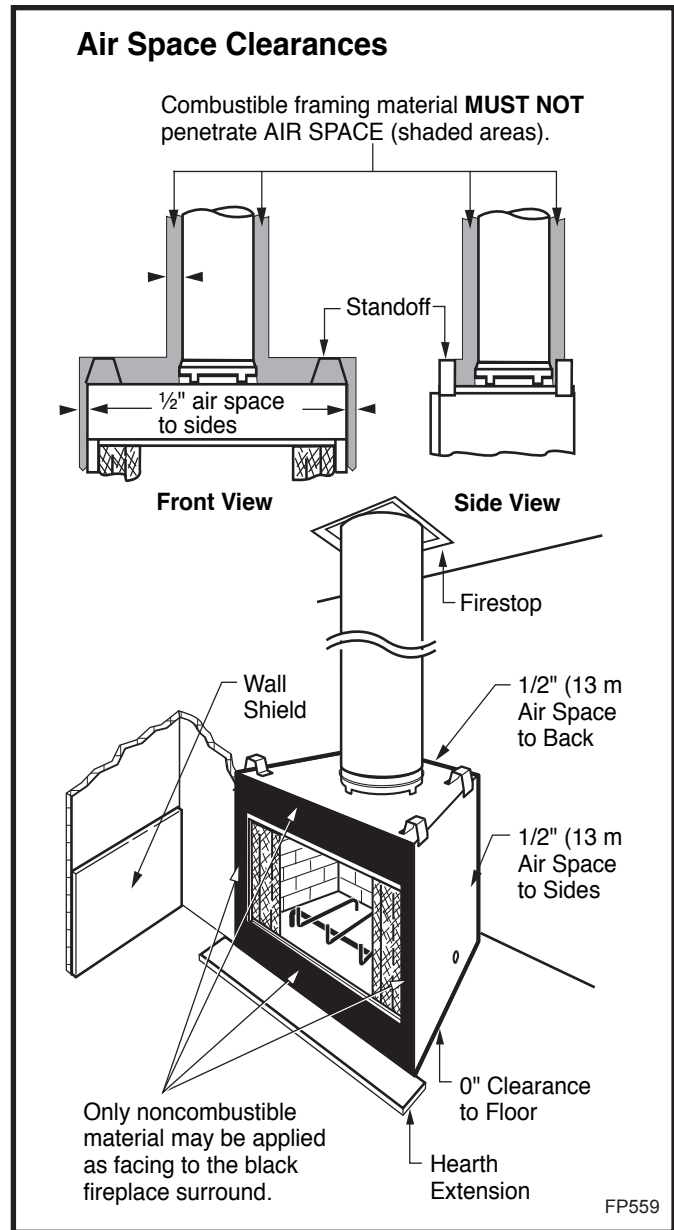
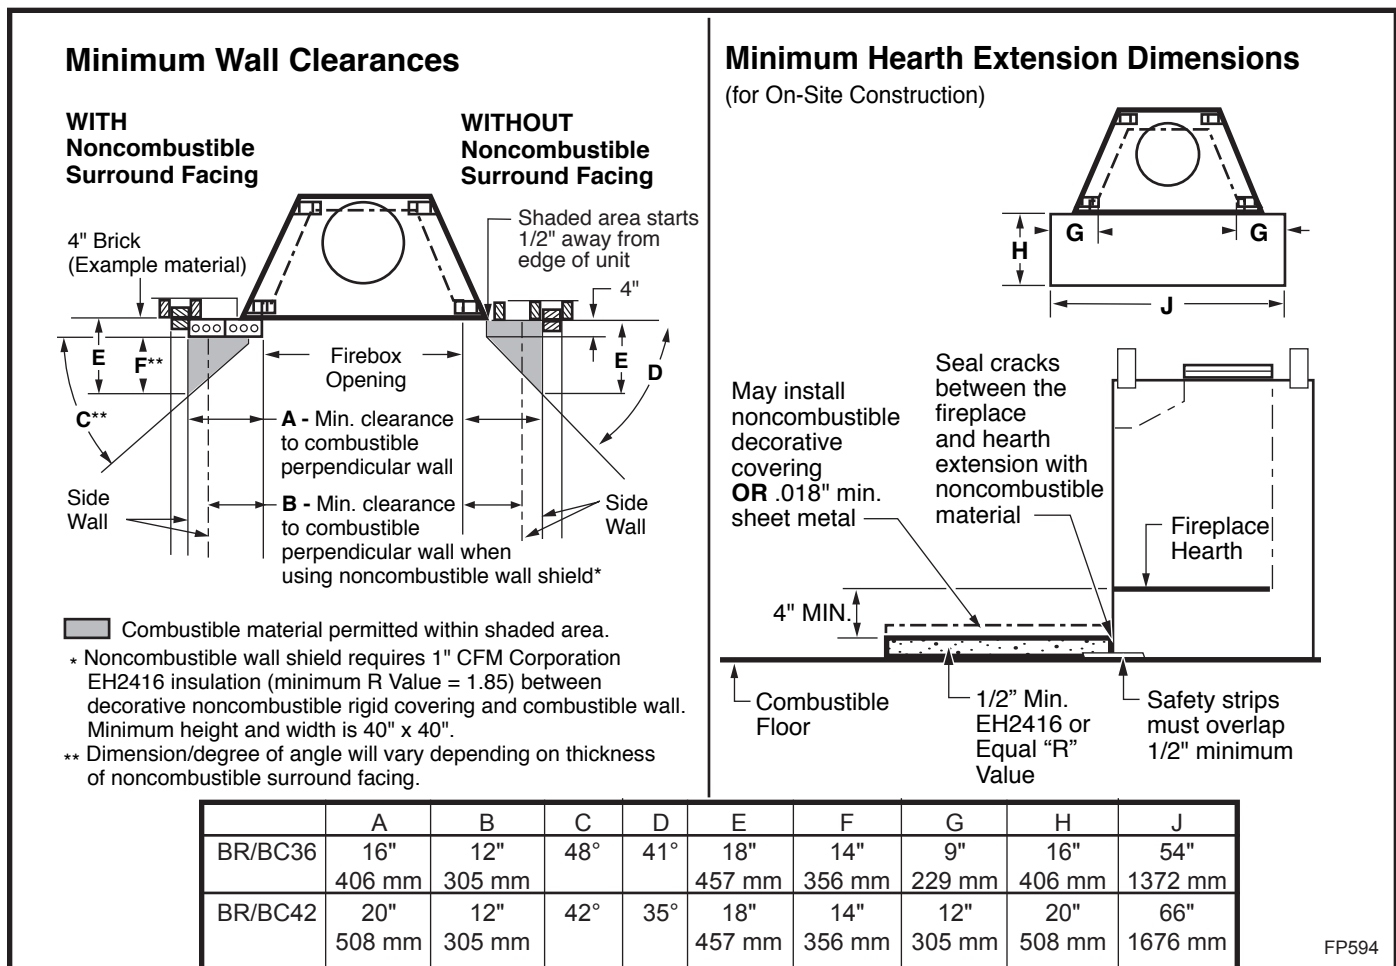

Fig. 20 Minimum clearances to combustibles.
Fig. 23 Combustible side wall protection and hearth extension dimensions.
CAUTION: All joints between the finished wall and the fireplace surround (top/sides) must be sealed with noncombustible material to prevent cold air leakage into the room. Only noncombustible material may be applied to the facing of the fireplace surround. (Black painted area) (Fig. 20)
Often a decorative surround or vertical portion of the mantel is desired. If this is constructed of any combustible material it must be within the safe zone indicated in Figure 23.
Adjacent combustible side walls that are within minimum dimensions shown in Figure 23 of the fireplace opening must be protected with a specifically built wall shield as described in Figure 20.
The special wall shield design described in Figure 20 is an alternate method of adding protection to side walls. Rt must = 1.85 minimum.
A hearth extension is required to protect a combustible floor in front of the fireplace. Refer to Figure 23 for minimum dimensions and mounting detail.
The hearth extension described in Figure 23 must be a durable noncombustible material with a minimum (total) Rt value of 1.09; see Figure 24 for examples. The overall height (above a combustible floor), depth and width must be as indicated, with the extension centered to the fireplace opening.
The top of insulation must be covered with a noncombustible decorative covering **or** a piece of .018" minimum sheet metal, to protect hearth extension material. (Fig. 23)
Secure the hearth extension to the floor to prevent shifting, using trim molding or other similar means at three (3) outer edges. Seal crack between the fireplace hearth and hearth extension with a noncombustible material. (Figs. 23 and 25)
WARNING: HEARTH EXTENSION MUST BE INSTALLED IN ACCORDANCE WITH FIGURE 23 AND MUST NOT COVER THE BOTTOM FRONT OPENING OF THE CIRCULATING MODEL.